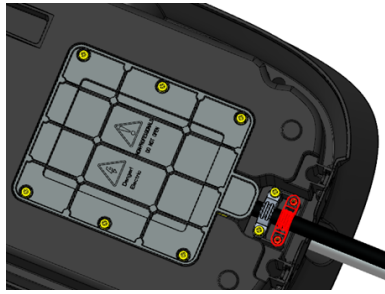

Figure 14: Install the wiring cover and the cable entry clamp
- Use six M4*12 screws to tighten the wiring compartment cover, and two M4*12 screws to tighten the crimping ferrule. Note that there are two positions for the crimping ferrule, depending on the thickness of the incoming cable. (Figure 14)